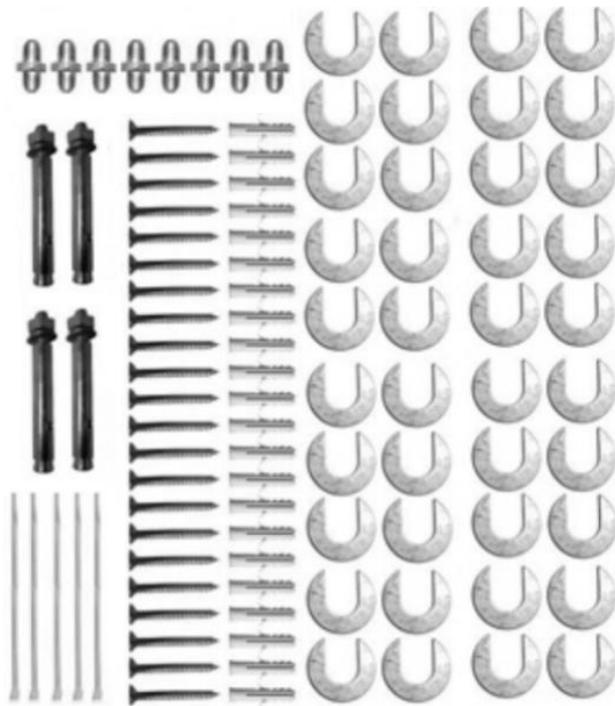

Fig. 7
1.3 Open the parts bag, check the parts according to the part list (See Fig.7).